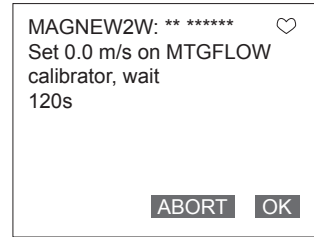

Fig. 7-49.
- Fig. 7-49. is then displayed.
2. Once the display as shown Fig. 7-49. appears, move the arrow key up or down to select a manual zero to be adjusted.